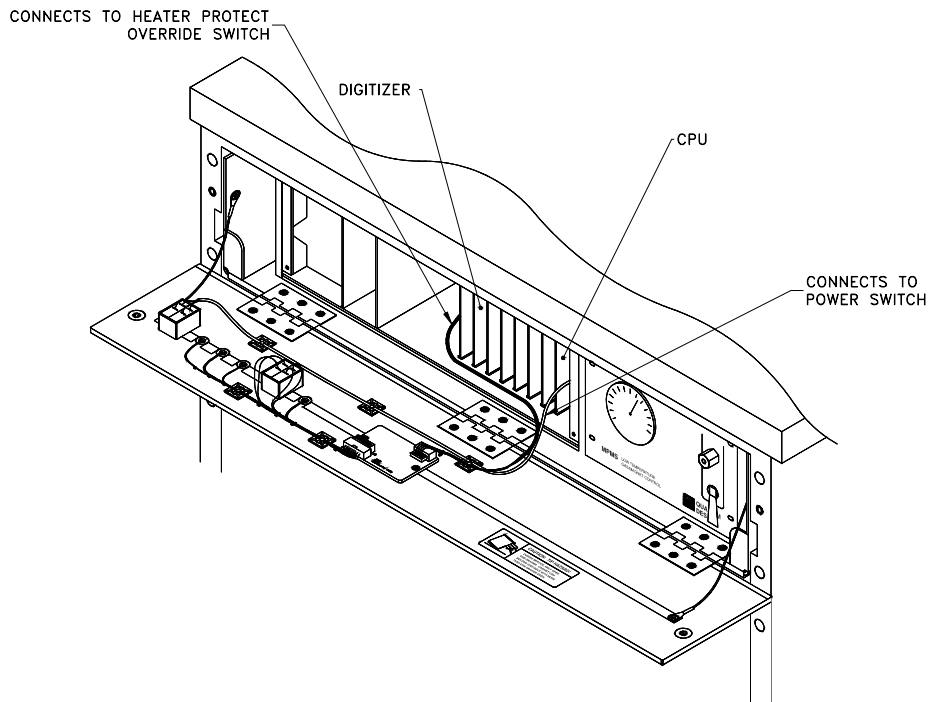

Figure 3b. The front of the 1822 Controller for MPMS XL systems with the front panel lowered.
**For MPMS XL systems:** Flip the front panel of the cabinet down after turning the front panel fasteners one-quarter turn with a Phillips-head screwdriver (Figure 3b).